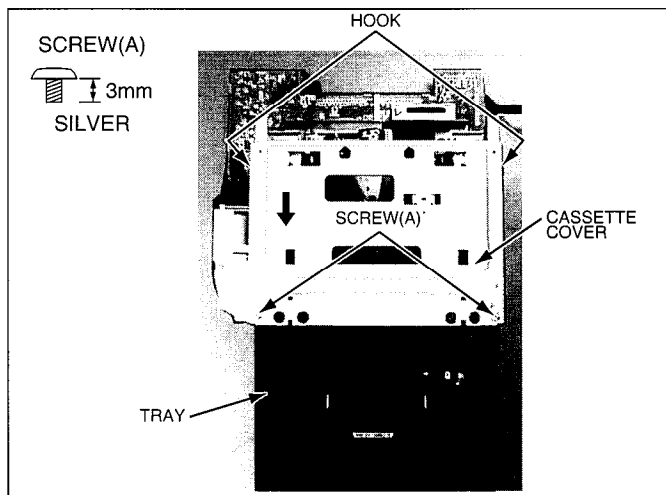

Fig. T-1
- Fig. T-1 Set the Mechanism to Tray open position. Unscrew 2 screws (A), then slide the Cassette Cover and unhook the hooking portion.